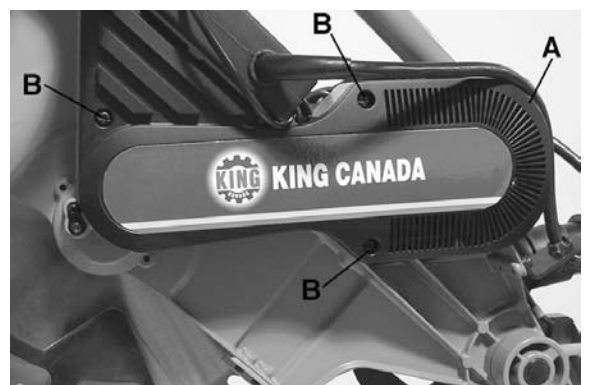

Figure 22
3. Remove the drive belt cover (A) Fig.22 by removing the 3 pan hd screws (B).
9. Reposition the belt cover and secure it into place using the same 3 pan hd screws (A) Fig.22 removed previously.